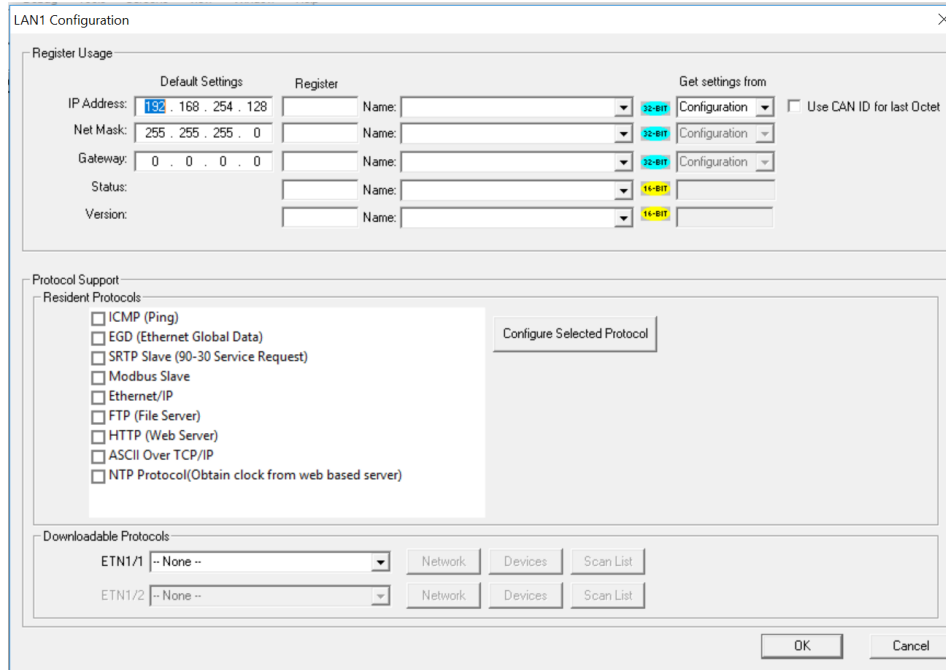

Figure 7.2 - Ethernet Module Configuration
3. Click the **Config** button to the right of the LAN1 for LAN 1 or LAN2 for LAN 2, revealing the Ethernet Module Configuration dialog as shown in figure as shown in Figure 7.2.